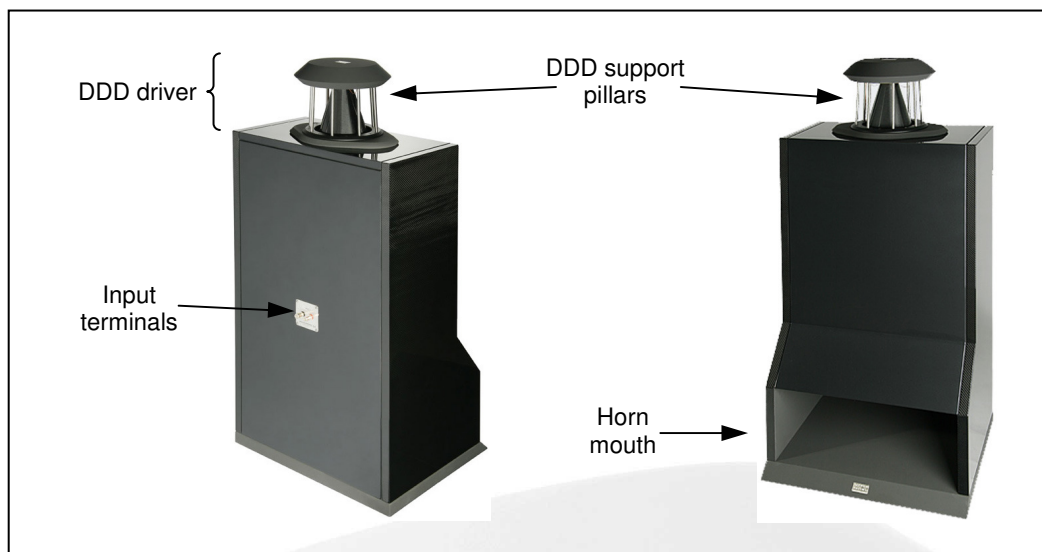

Figure 3. Principle Features of the Unicorn Mk II
When lifting the loudspeakers out of the packing hold them around the cabinet. Do not lift them by the DDD driver support pillars (figure 3) as this may damage the DDD driver.
4. Lift the loudspeaker off the lower packing tray by holding it around the cabinet. Do not lift the loudspeaker by the DDD driver support pillars – figure 3.
Use the cable supplied to connect the input sockets on the back of the loudspeaker (figure 3) to the output sockets on the side of the external network. Ensure that the two red sockets are connected together and that the two black sockets are connected together. Connect the amplifier to the input terminals on the top of the external network. Do not connect the amplifier directly to the Unicorn Mk II as this may result in damage to the DDD driver which will not be covered under the warranty.